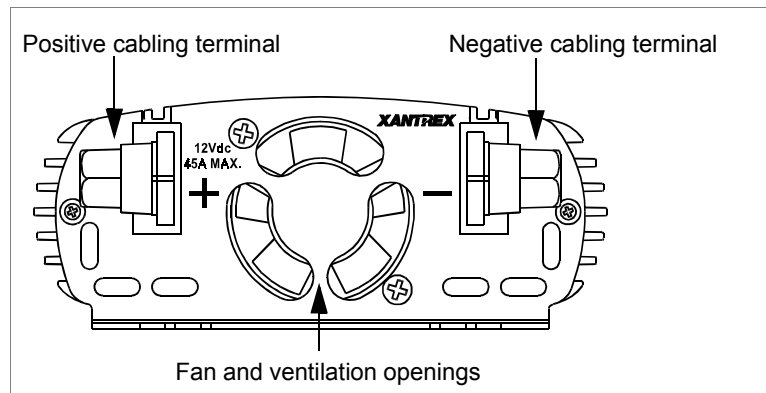
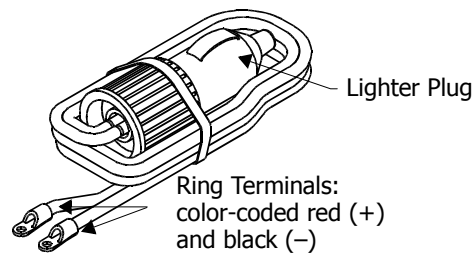
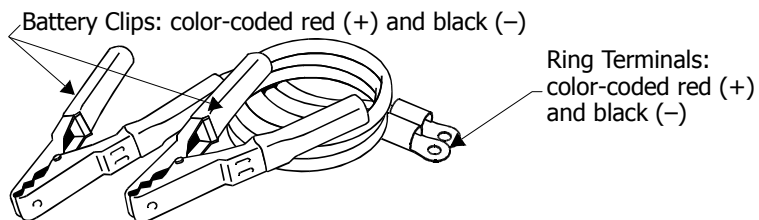

Figure 2 DC Panel of PROwatt 400
Figure 3 Lighter Plug Cable
Figure 4 Cable for Direct Connection to 12 Volt Battery
Figure 2 shows the DC panel of the PROwatt 400 inverter.
Figure 3 shows the lighter plug cable that you use when you are going to power loads less than 150 watts.
Figure 4 shows the cable you install when the highest loads you are going to power are greater than 150 watts.
3. Take the power cord equipped with the lighter plug (Figure 3) and place the ring terminals over the two cabling terminals on the back of the inverter. (The cabling terminals are shown in Figure 2.)
3. Take the cables equipped with battery clips on one end (Figure 4) and place the ring terminals over the two cabling terminals on the back of the inverter. (The cabling terminals are shown in Figure 2.) Make sure you connect red to red and black to black, and make sure you screw the nuts on tightly.